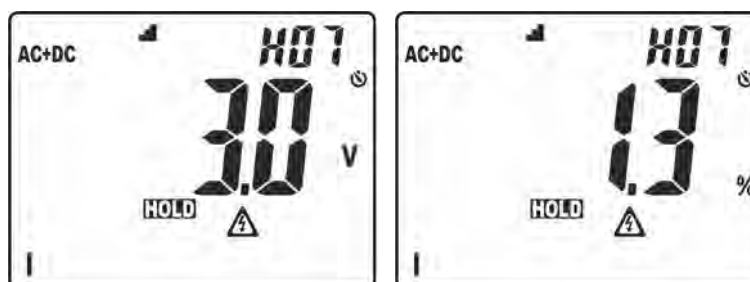

Fig. 4: Display of ordering of amplitude of harmonic analysis
- Long pressing of the key (at least 2s) in order to activate the **H2O** (**H**igher **H**armonic **O**rdering) ordering function of the amplitude of harmonics. In these conditions, function "HOLD" is automatically activated, symbol  $\text{█}$  is shown on the display, the bargraph is disabled and the instrument shows the value of amplitude of all harmonics between the 2nd and the 25th, in **decreasing order** from the harmonic with the highest value, as shown in Fig. 4.
In the example in Fig. 4, the harmonic with the highest value corresponds to the 7th. Press key  $\blacktriangle$  to observe the amplitude of the remaining harmonics and press key **H/H%/H $\text{█}$**  again to switch between display in absolute and percentage values. Turn the rotary switch to exit the function.